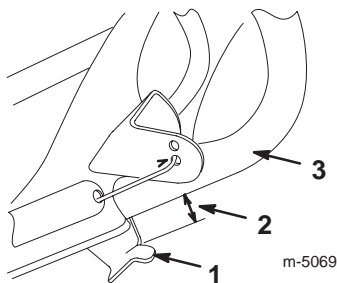
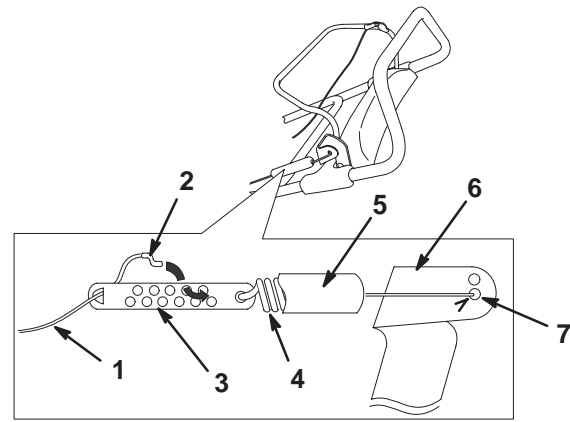

Figure 9
Figure 10
3. Ensure that a 1/8 to 1/4 in. (3 to 6 mm) gap exists between the control bar bracket and the handle as shown in Figure 9.
1. Unhook the spring end from the hole in the center of the control bar bracket as shown in Figure 10.
3. Unhook the Z-fitting from the cable adjuster (Fig. 10), and position it in a different hole on the adjuster to obtain a gap of 1/8 to 1/4 inch (3 to 6 mm) between the control bar bracket and the handle (Fig. 9).
5. Hook the spring end into the hole in the center of the control bar bracket as shown in Figure 10.
Note: After extended use, the drive belt may wear and lose its proper belt tension. Improper belt tension causes the belt to slip and decreases the performance under a heavy load. Belt slippage may occur after two or three seasons of normal usage (10 to 15 operating hours). If the drive belt slips (continuously squeals) under a heavy load, increase the belt tension by positioning the spring end in the other hole in the control bar bracket as shown in Figure 10. Adjust the gap between the control bar bracket and the handle to 1/8 to 1/4 in. (3 to 6 mm).